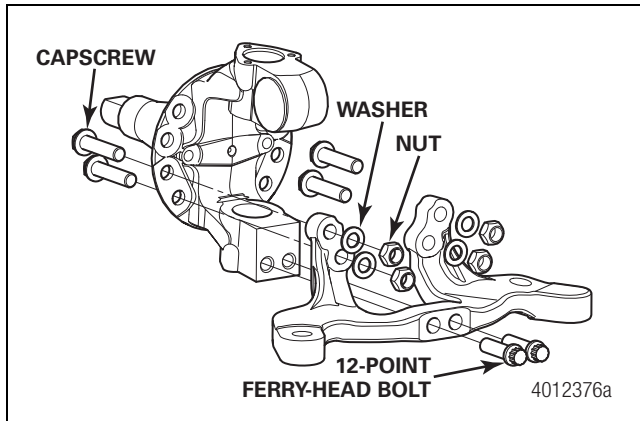

Figure 4.9
5. Remove the two 12-point Ferry-head bolts from the lower middle portion of the integrated steering and tie rod arm assembly. Figure 4.9.
6. Remove the four nuts and washers from the capscrews that secure the integrated steering and tie rod arm assembly to the knuckle. Retain the capscrew with a wrench or socket on the wheel hub side to prevent the fastener from turning when loosening the nut. Figure 4.9.